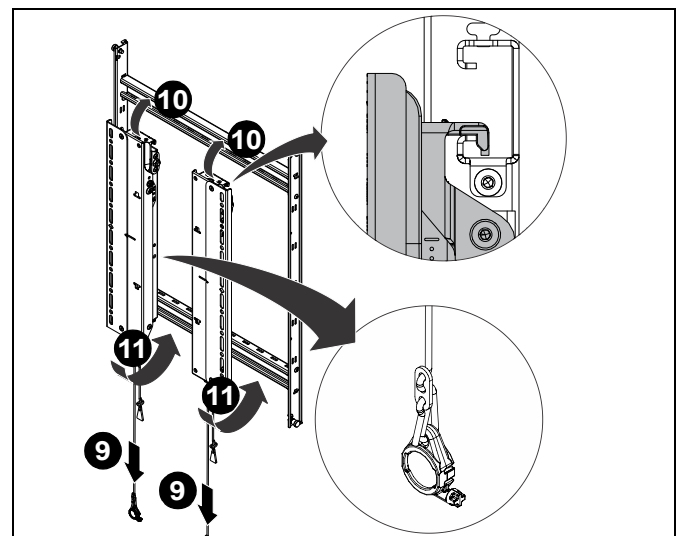

Figure 20
- Lower home latch release cords on each interface bracket (A and B). (See Figure 20)
- Raise display with attached interface brackets and hook top of brackets into top of mount. (See Figure 20)
- Slide interface rail hooks under lower rail. (See Figure 20)